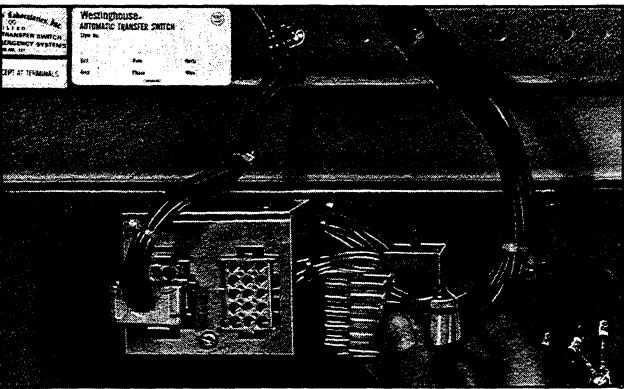

Fig. 4 Panel Interconnection Plugs
1. Both the Normal (NB) and Emergency (EB) power switching devices should be in the "Open" and "Charged" position. (If breakers do not read "Charged", they can be manually charged. See Manual Charging of SPB Breaker and Fig. 4.)